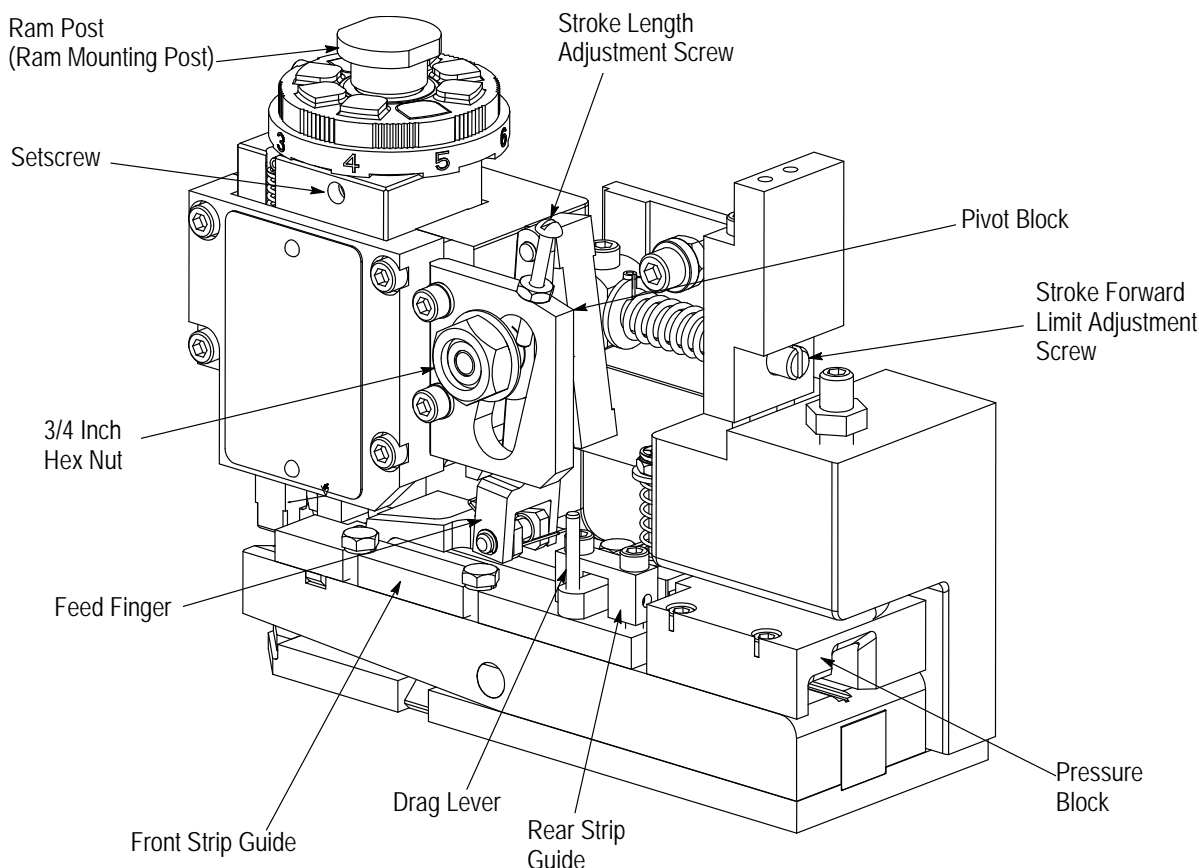

Figure 4
7. Slightly loosen the 3/4 inch hex nut on the side of the applicator to allow movement of the pivot shaft (Figure 4).
- Turn the stock drag adjustment nut (see Figure 4) down to increase the drag or up to decrease the drag.